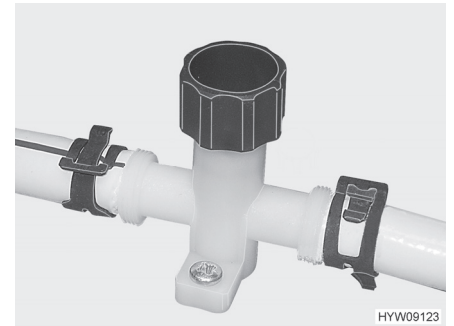
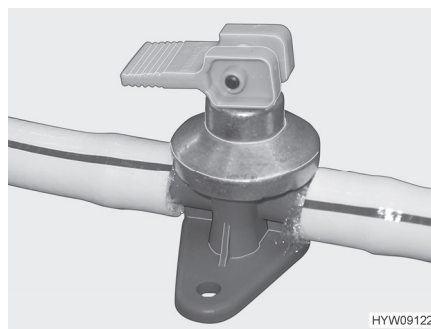

Fig. 190 Drain cock (water pipe)
Fig. 191 Drain cock (Alde boiler)
- Close drain cocks (Fig. 191 and Fig. 190). To do so, close the caps by turning them in a clockwise direction and set the rocking lever in a horizontal position. The position of the safety/drainage valve and the drain cocks is specified in the section 10.6 at the end of this chapter.